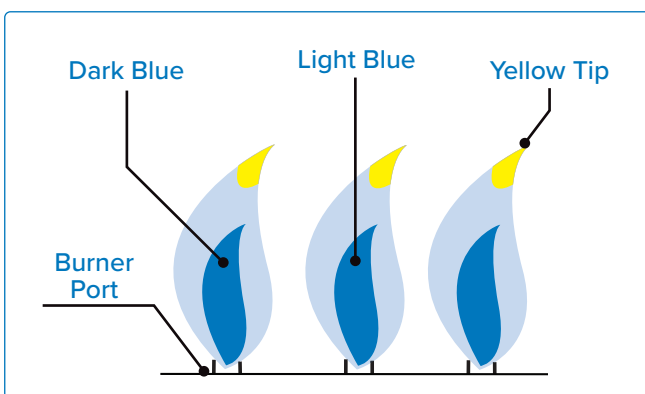

Fig. 26
- Too little air will cause yellow, sooty, lazy flames (see Fig 26).